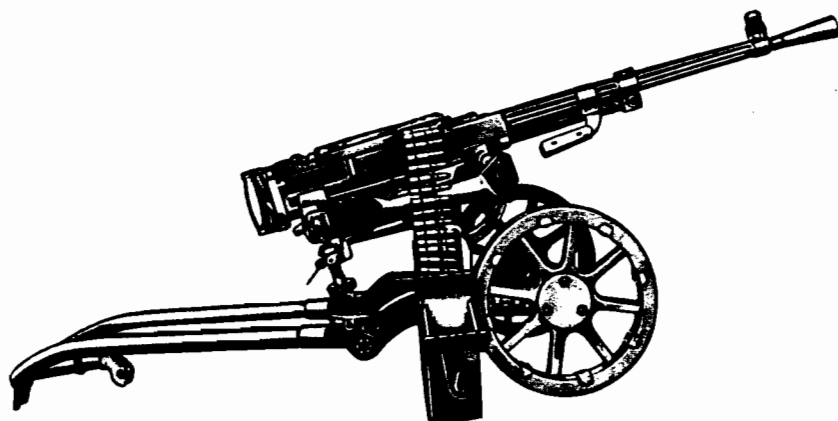

Figure 71. 7.62-mm Goryunov heavy machinegun (SGM).
- SGM: Splined barrel, separate sear housing, micrometer barrel lock, no dust covers, operating handle on right side (fig. 71).